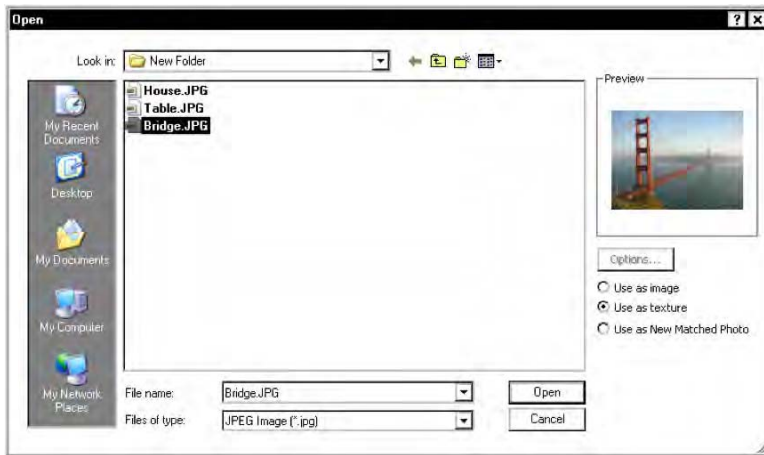

Figure 7–28. Importing an image to a flat surface in SketchUp
2. In the dialog box, select an image to import (Figure 7–28), and on the bottom right select Use as Texture.